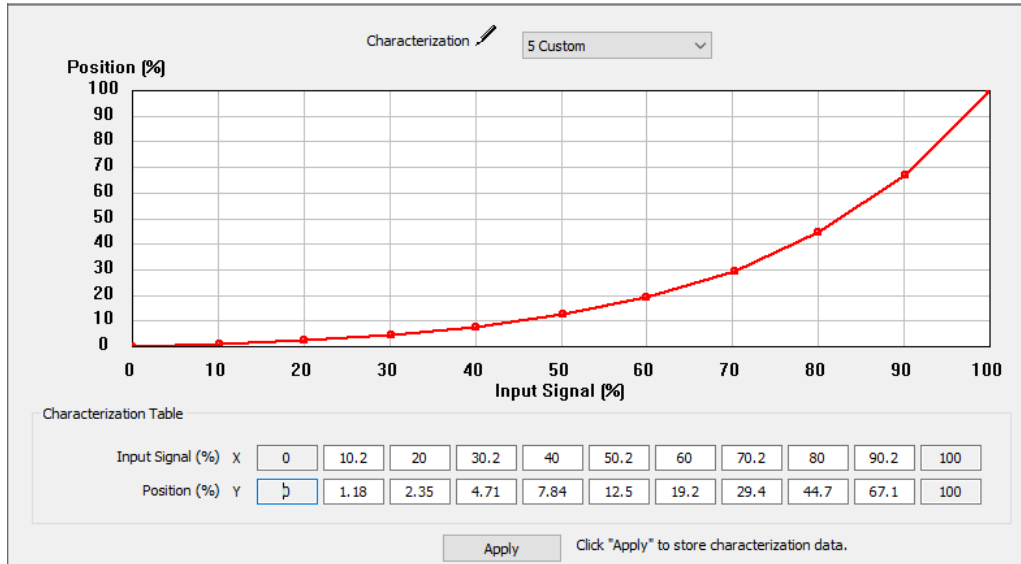

Figure 64 Custom Characterization
2. Click **Edit** and Figure 64 appears on the bottom of the screen, along with the *Custom Data* field on the *Options* tab. The *Custom Data* field displays the data points once configuration is complete.